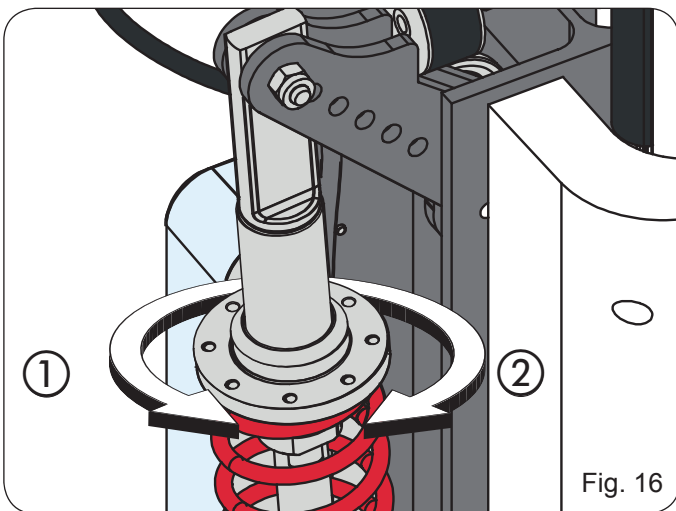

Fig. 16
- Manually move the arm to the 45° position and verify that it remains stationary. If the arm tends to open, turn the spring preload ring nut anti-clockwise (Fig. 16 ref. ①); if it tends to close, turn the ring nut clockwise (Fig. 16 ref. ②).